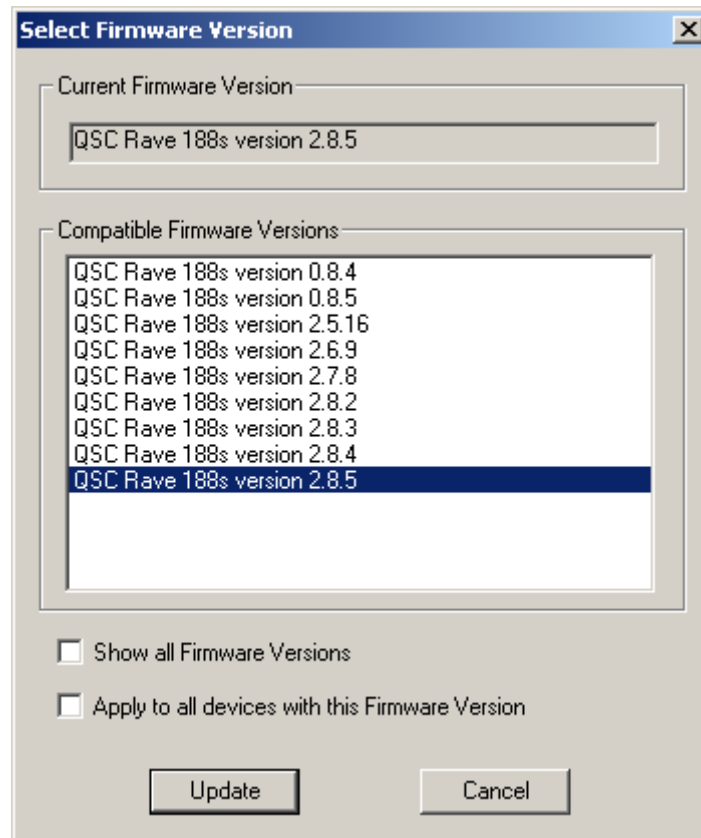

Figure 6
- The next step is to upload SNMP capable code into the CobraNet device. To reprogram a RAVE (or other CobraNet device supporting TFTP upgrades via Discovery), select the appropriate device from the “configuration” pane by right clicking on its MAC address. Select the “Update Firmware...” option from the drop down menu. The Discovery utility will begin to read the flash boot sector of the selected device. A dialog box will then appear that indicates the “Current Firmware Version” and all “Compatible Firmware Versions” for the device. Figure 6 shows the “Update Firmware...” dialog box.